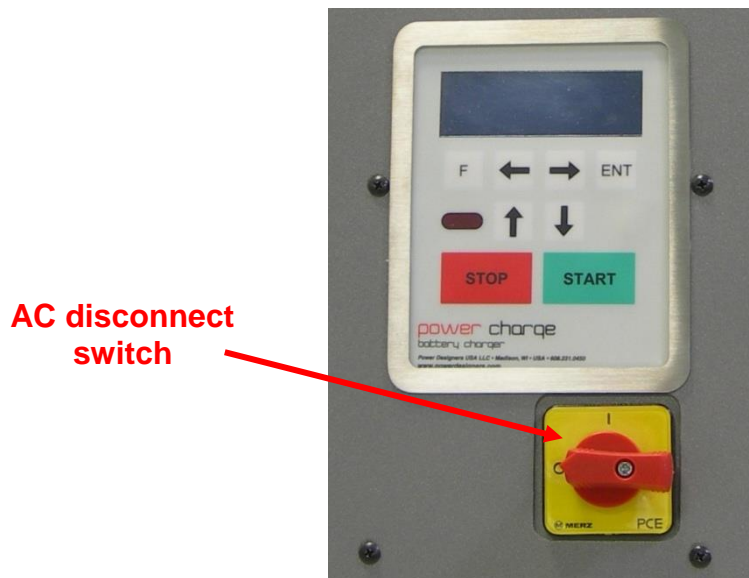

Figure 10: AC disconnect switch
3. Verify that the AC disconnect switch on the charger is in the **OFF** position (Figure 10).